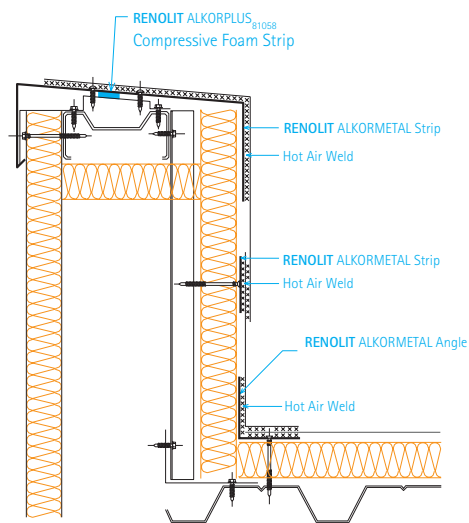

fig. 4: RENOLIT ALKORPLUS₈₁₀₅₈ compressive foam strip
• With a RENOLIT ALKORPLUS₈₁₀₅₈ compressive foam strip underneath the RENOLIT ALKORPLAN metal sheet trim, the parapet top is sealed against wind pressure (see fig. 4). The membrane is protected from an abrasive upstand surface by a RENOLIT ALKORPLUS₈₁₀₀₅ protective layer (min. 300 g/m²). Where the parapet height exceeds 500 mm, intermediate support with a continuous RENOLIT ALKORPLAN metal sheet (50 mm wide) is required.